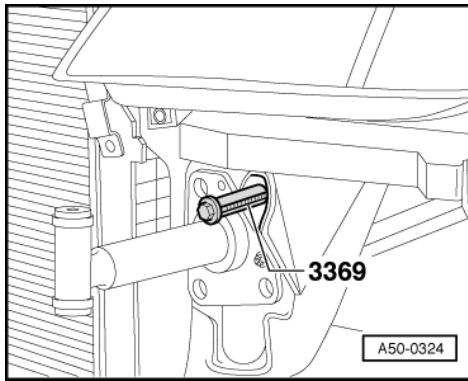

Fig.1 -> Inserting special tool 3369
- On the left-hand side, fit special tool 3369 into the threaded hole -5- => Fig. 1